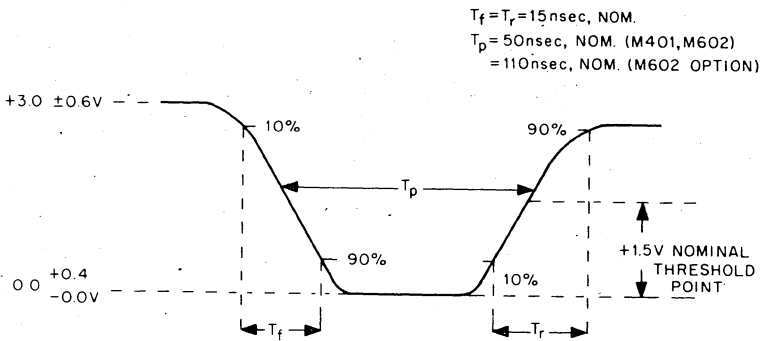

Figure 11. Standard Pulse
**Standard Timing Pulse:** In digital system design, a reference for system timing is usually required. The M Series modules M401 or M405 produces a standard pulse which provides such a reference. The standard pulse derived from each of these two modules is shown in Figure 11.
**NAND Gate and Power Amplifier Propagation Delays:** The standard pulse (Figure 11) is distributed throughout a system in negative form to maintain the leading edge integrity. (Since the TTL gate drives current in the logic 0 state, the falling edge is more predictable for timing purposes.) However, the standard pulse is of the wrong polarity for use as a clocking input to the type D and J-K flip-flops, requiring the use of a local inverter. Ordinarily, a NAND inverter is adequate. Where high fan-out is necessary, a M617 Power NAND is preferred.